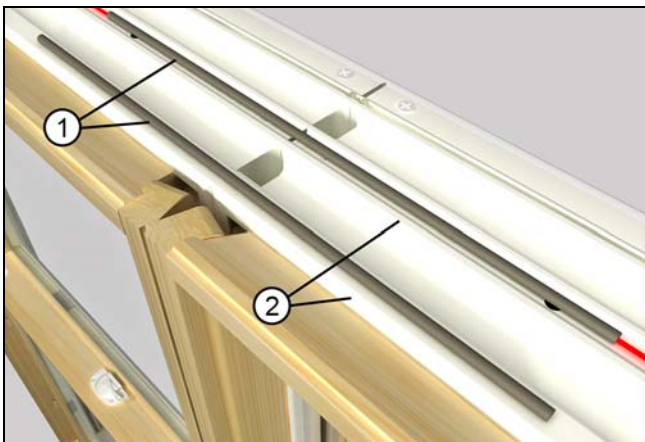
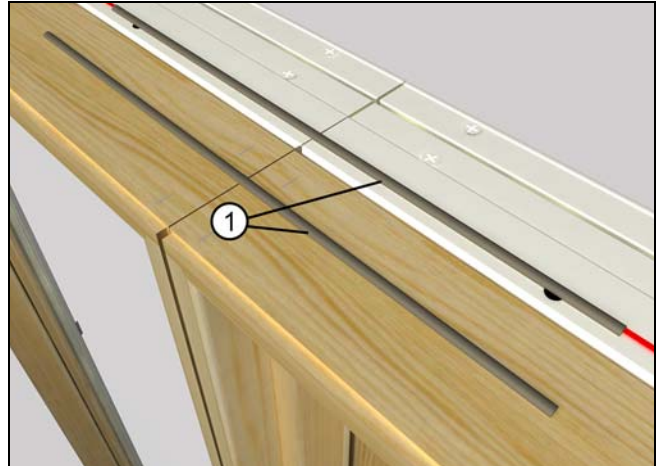

Figure 11 ITDH
Figure 12 IOFD
2. Apply two 1/4" (6) x12" (32) beads of construction adhesive on the frame beneath where the mull brackets will be applied. See Figure 11 and Figure 12.